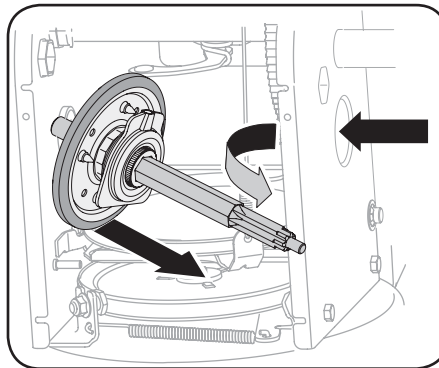

Figure 4-21
6. Carefully position hex shaft downward and to left before carefully sliding friction wheel assembly off shaft. See Figure 4-21.
NOTE: Make sure shift lever pin is in place in bearing housing. See Figure 4-21 inset.